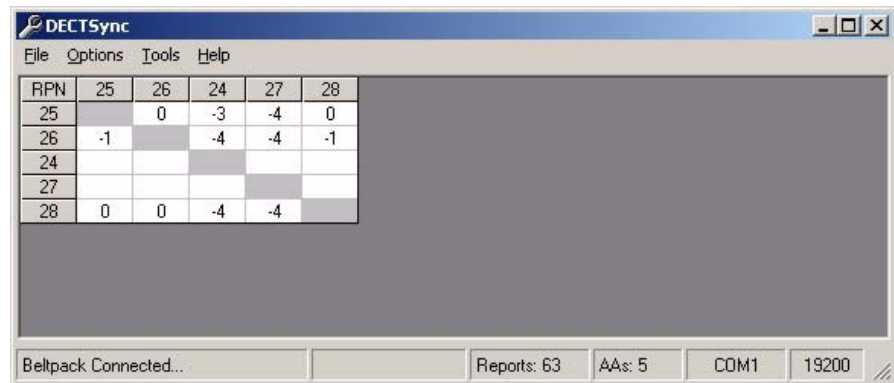

Figure 1-3: DECTSync Grid
5. Connect a beltpack serial upgrade cable between the laptop's serial port and the test Beltpack. If a serial port is not available on the laptop, use a USB to serial converter. The pinout for this cable is given in Figure 1-3 on page 1-14 of this manual.